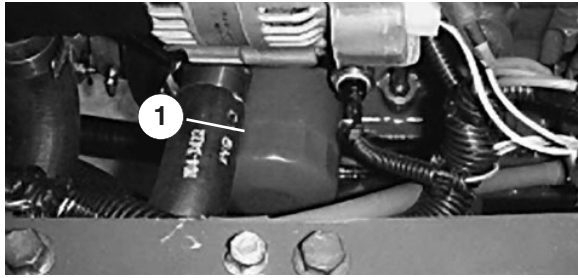

Figure 26
5. Remove and replace the oil filter (Fig. 26).